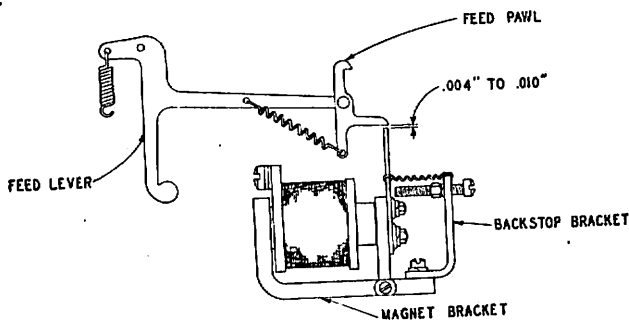

Fig. 21
4.62 **Blocking Plate.** With the magnet energized and with the operating lever roller on the low part of the cam—the feed pawl in its extreme upward position—the clearance between the top edge of the blocking plate and the bottom surface of the feed pawl extension shall be Min. .004", Max. .010", when all play is taken up to make this clearance a minimum. See Fig. 21.